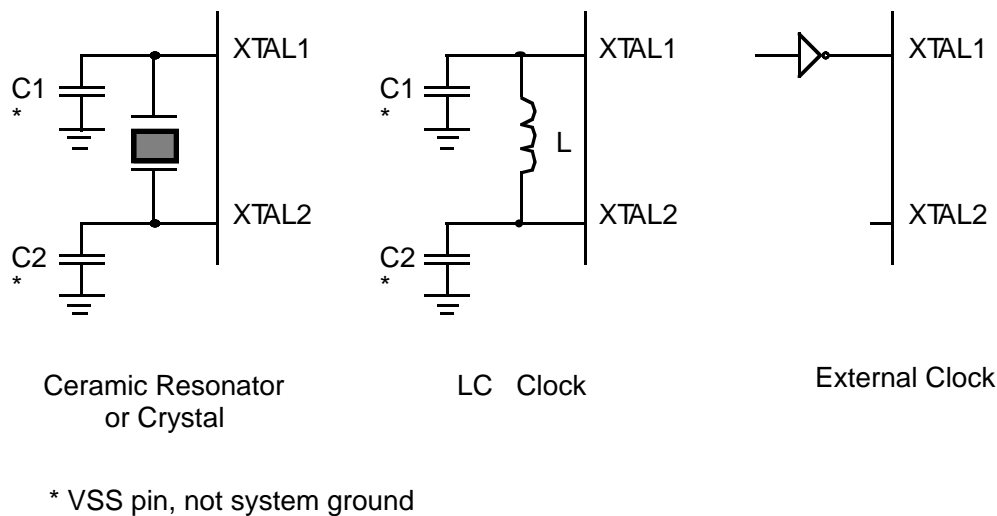

Figure 17. Oscillator Configuration
**Clock.** The Z86E23 on-chip oscillator has a parallel-resonant amplifier for connection to a crystal, LC, ceramic resonator, or any suitable external clock source (XTAL1=Input, XTAL2=Output). The crystal should be AT cut, 4 MHz max; series resistance (RS) is less than or equal to 100 ohms. The crystal should be connected across XTAL1 and XTAL2 using the recommended capacitors (10 pF < CL < 150 pF) from each pin to ground (Figure 17).